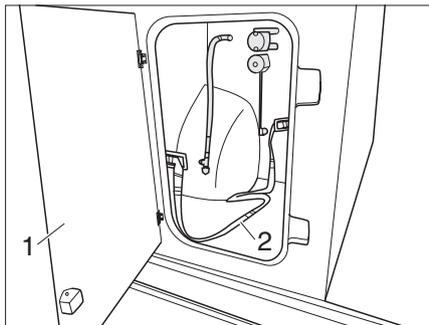

Fig. 59 Access flap for the gas bottle
- ▶ Fix gas bottle in place with the fixing belts (Fig. 59,2).
- ▶ Close (Fig. 59,1) access flap.
- ▶ Open the access flap (Fig. 59,1) to the gas bottle compartment.